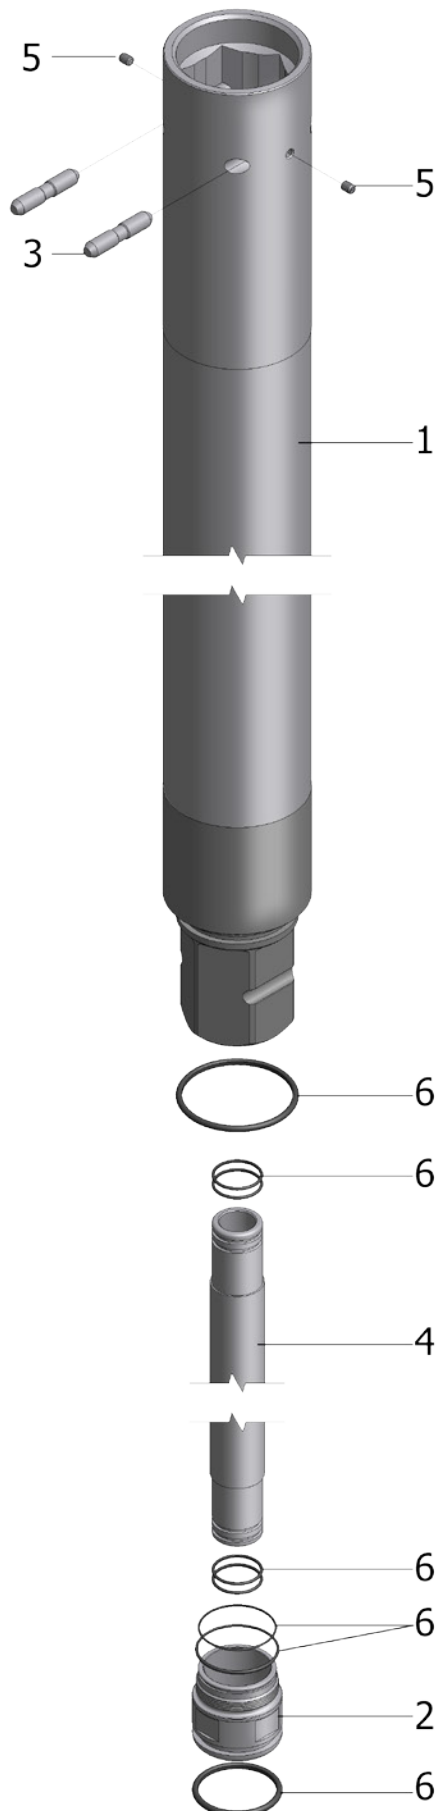

FIG. 3.17
D.114 C2H HEX 80 ROD: J-EC2H1000 (L=1000); J-EC2H2000 (L=2000); J-EC2H3000 (L=3000) (REF. FIG. 3.17)